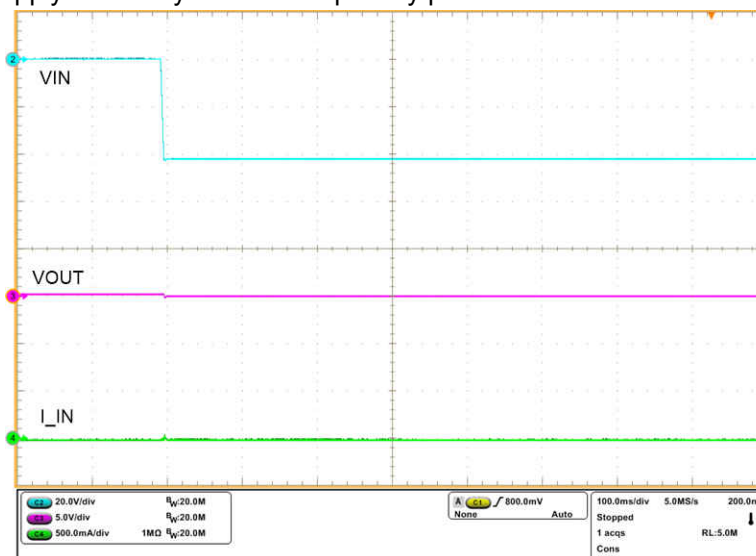

Figure 4-8. Reverse Polarity Protection
4. Enable the power supply and verify the reverse polarity protection waveform as shown in Figure 4-8.